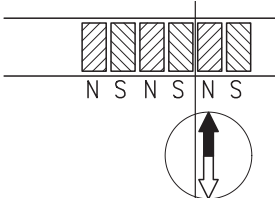

Fig. 13 : Determination of the pole position. Cutting the magnetic strip
- If necessary, use a compass needle to determine the location of the poles on the magnetic strip (fig. 13).